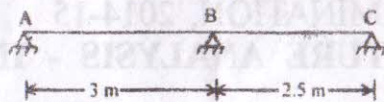

Fig. 4
- (a) Explain Muller Breslau principle. Using the principle draw the influence line diagram for reaction R_A for the beam shown in the following fig 4. Compute the ordinate at 1 m interval. The flexural rigidity is constant throughout